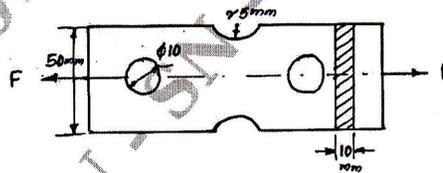

Fig. Q2 (b)
b. Determine the safe load that can be carried by a bar of rectangular cross section shown in Fig. Q2 (b) limiting the maximum normal stress to 130 MPa taking stress concentration into account. (08 Marks)